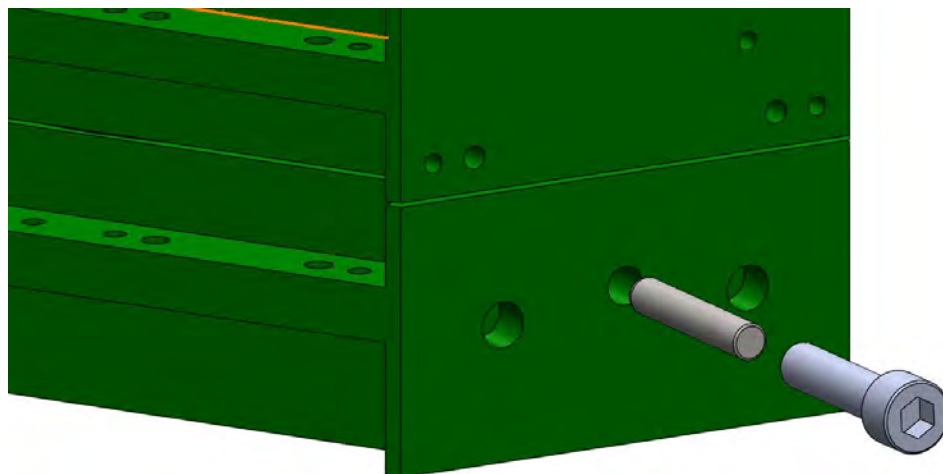

Figure 7.4-1. Manual Uncouple Feature
4. Insert an 8mm OD x 60mm long shaft followed by a M10x40mm long socket head cap screw in the hole located in the middle of side 1 of the Tool Adaptor Housing as shown in Figure 7.4-1. This requires any tool side module on Position 1 to be removed.